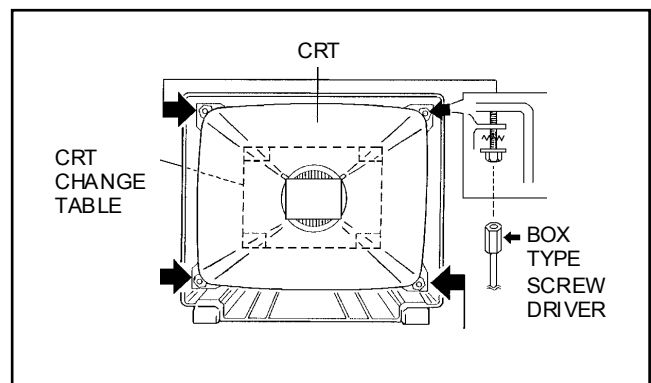

Fig. 6
- 2. While keeping the surface of CRT down, mount the TV set on the CRT change table balanced well as shown in Fig. 6.
- 3. Remove 4 screws marked by arrows with a box type screw driver as shown in Fig. 6.